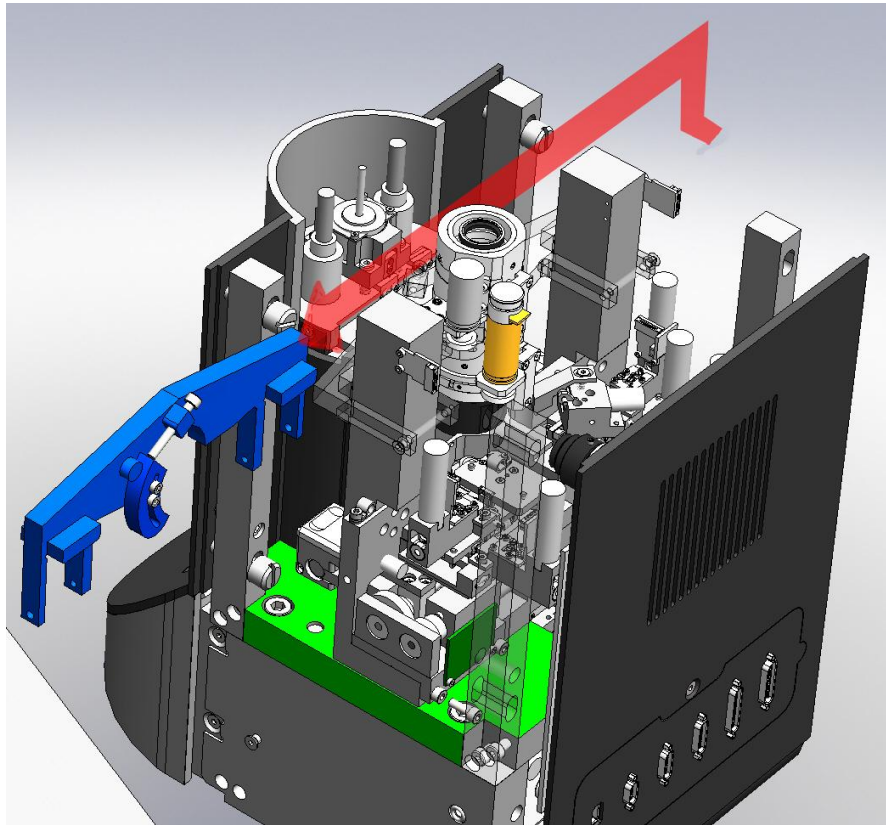

Fig. 3-4. Removing bracket
4. Rotate the bracket 90 degrees. Pull out the bracket carefully (Fig. 3-4).